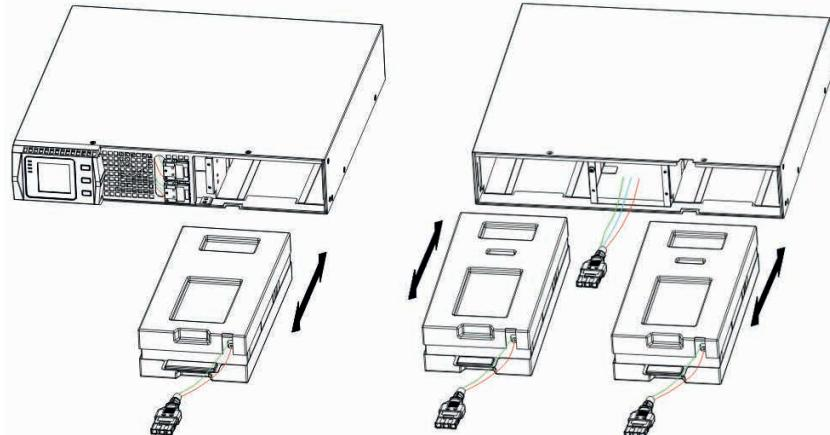

FIG 26: Remove the battery park
4. Grasp the handle in front of the battery pack, take out of it and hold it, then remove the battery pack as fig. 26 shown.